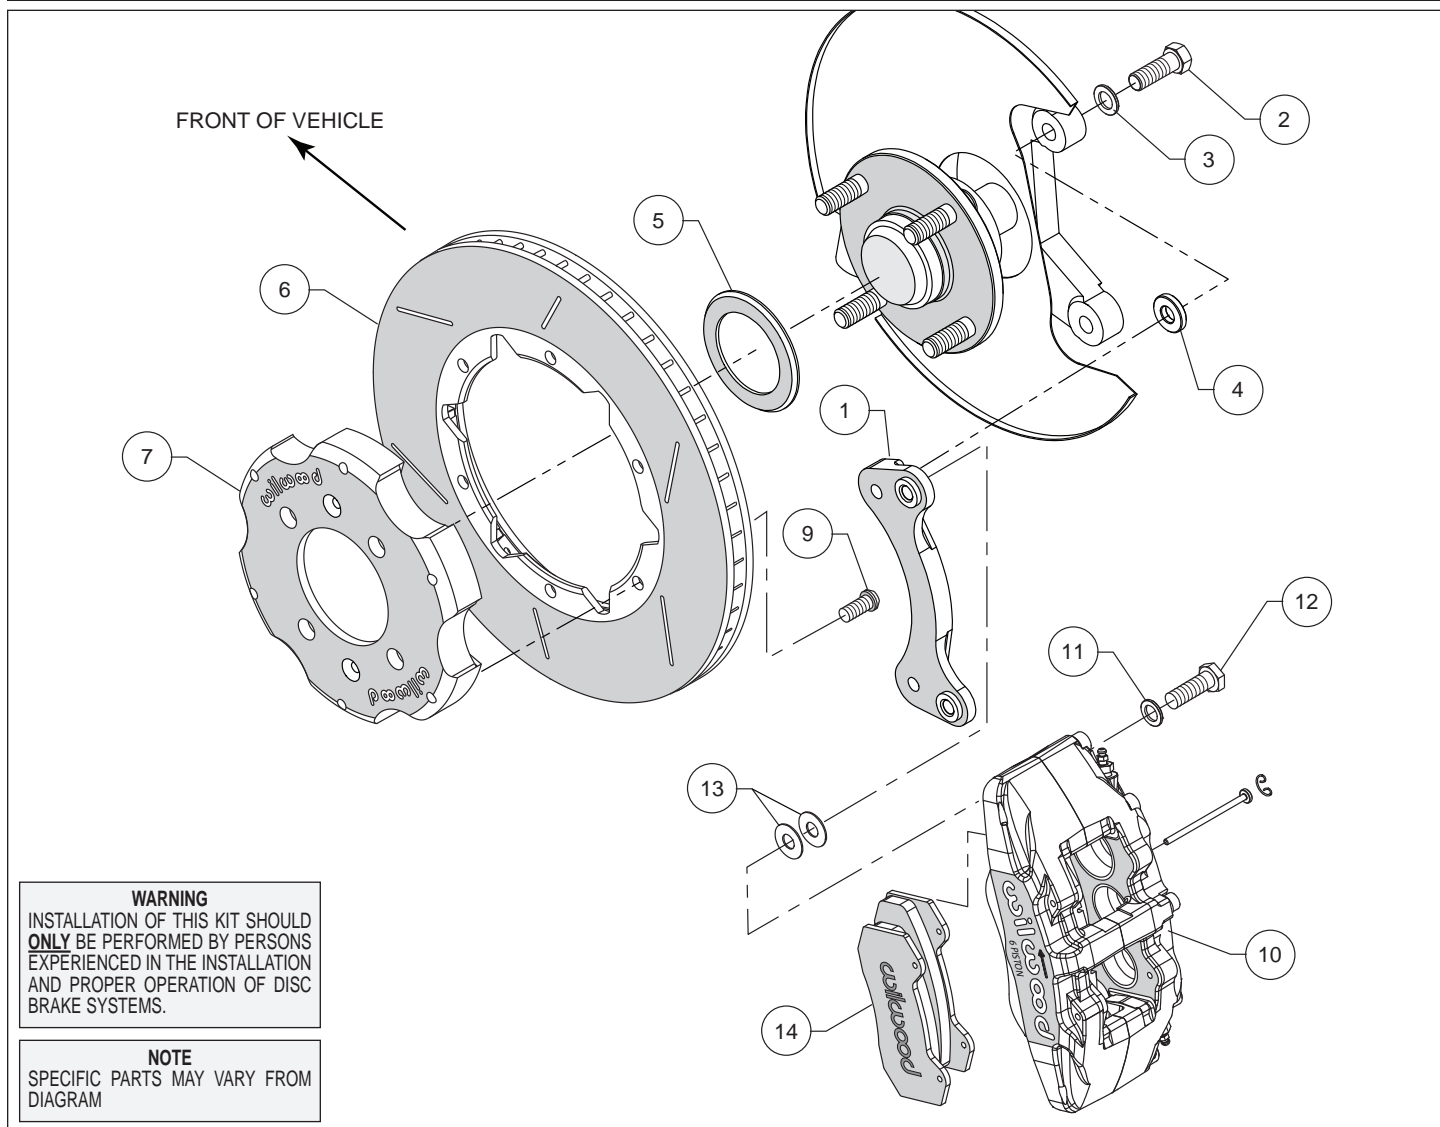
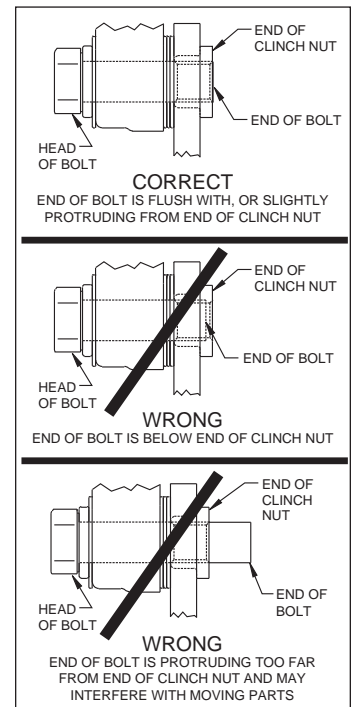

Figure 1. Typical Installation Configuration
Figure 3. Clinch Nut Engagement Diagram
**Assembly Instructions** (numbers in parenthesis refer to the parts list and Figure 1 on the preceding pages): **CAUTION:** All mounting bolts must fully engage clinch nuts. Be sure to check that all bolts are either flush or protruding through flanged side of clinch nut after shimming, Figure 3.
- Orient the caliper mount bracket (1) as shown in Figure 1 and Photo 1, and install using bolts (2) and washers (3). Place a spacer (4) on each bolt between the bracket and caliper mounting bosses, Figure 1 and Photo 2. Ensure that the flanged heads of the clinch nuts in the bracket are facing outboard, Photo 1. Temporarily tighten the mounting bolts. **NOTE:** The bracket must fit squarely against the mount bosses on the upright. Inspect for interference from casting irregularities, machining ridges, burrs, etc. Remove bolts one at a time, apply red *Loctite*® 271 to the threads and torque to 30 ft-lb.
- Orient the rotor (6) and the hat (7) as shown in Figure 1 and Photo 3. Attach rotor to hat using bolts (9). Using an alternating sequence, apply red *Loctite*® 271 to the threads, and torque to 25 ft-lbs.
- NOTE:** Please reference the caution statement at the beginning of the assembly instructions. This kit contains distinct right and left hand calipers that must be mounted in a specific direction, as described below. Mount the caliper (10) onto the caliper mounting bracket (1) using bolts (12) and washers (11), as shown in Figure 1. Initially place two .035" thick shim (13) on each bolt between the caliper and the bracket, Photo 5. Ensure that the caliper is mounted so the largest pistons are at the rotor exit end of the caliper, in relation to the direction of rotor rotation. Temporarily tighten the mounting bolts and view the rotor (6) through the top opening of the caliper. The rotor should be centered in the caliper, Photo 6. If not, adjust by adding or subtracting shims between the bracket and the caliper. Always use the same amount of shims on each of the two mounting bolts. **NOTE:** The end of each bolt must be flush with or slightly protruding from the head of the clinch nut, as shown in Figure 3. If necessary place spare shims between washer (11) and caliper mounting ear to achieve the proper clinch nut engagement. Once the caliper alignment and clinch nut engagement are correct, remove the mounting bolts and caliper.
- Remove the two pad retaining pins from the caliper (10) by carefully popping out the pin retaining clips and sliding out the pins. Insert the brake pads (14) into the caliper from the bottom, Figure 1 and Photo 7, with the friction material facing the rotor. Secure the brake pads in place with the pad retaining pins and clips, Photo 8. Reinstall the caliper onto the caliper mounting bracket. Apply red *Loctite*® 271 to bolt threads (12), and torque to 40 ft-lb.